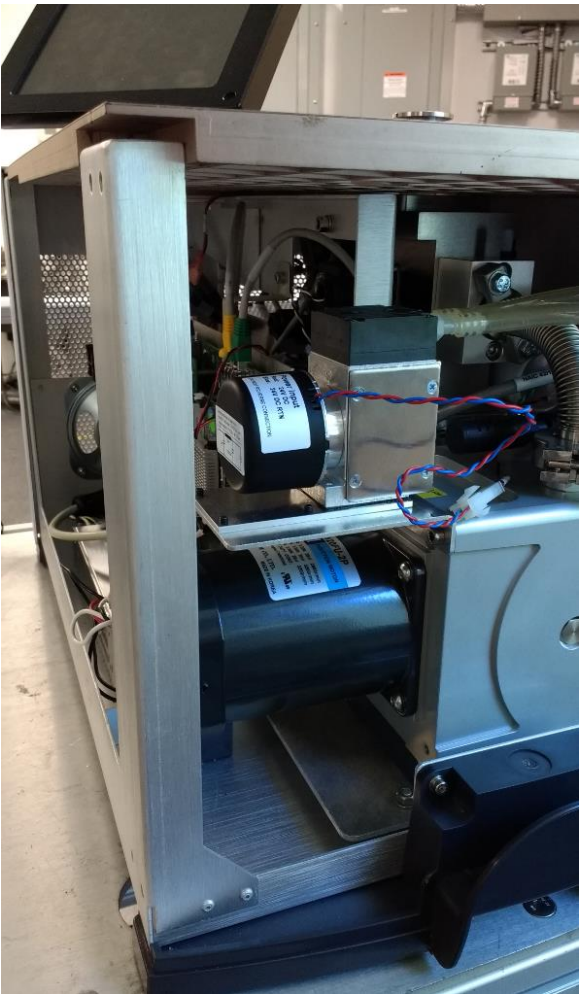

Figure 11: Covers
3. Using a slotted screw driver, remove the covers (Figure 11: Covers).